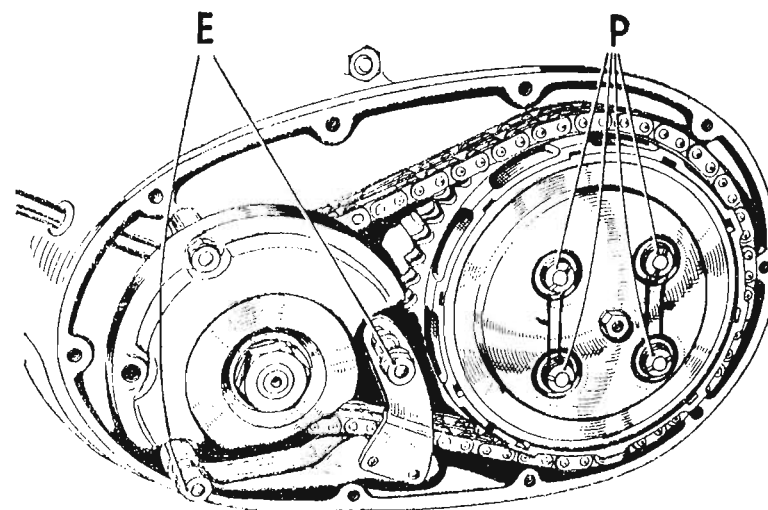

FIGURE 20. The primary chain and clutch.
When the two lower generator retaining nuts (E) FIG. 20 are slackened, the position of the slipper can be altered to give the correct tension.
Whenever the clutch has been dismantled, the spring pressure must be reset carefully. The four retaining nuts (P) FIG. 20, should be screwed in until the underside of the head of each nut is approximately 1/16" from the face of a spring cup. The figure is an arbitrary one and it is a simple matter to vary it according to circumstances. If the springs are compressed excessively, the handlebar lever will be stiff to operate and tiring to the hand; alternatively, if the spring pressure is insufficient, the clutch will tend to slip.